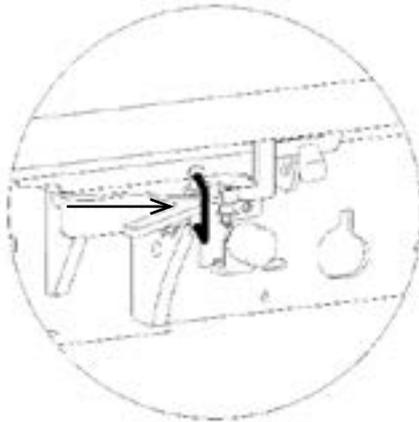

Figure 5
- 2- Tilt the ring to position it facing the keeper (Figure 5).